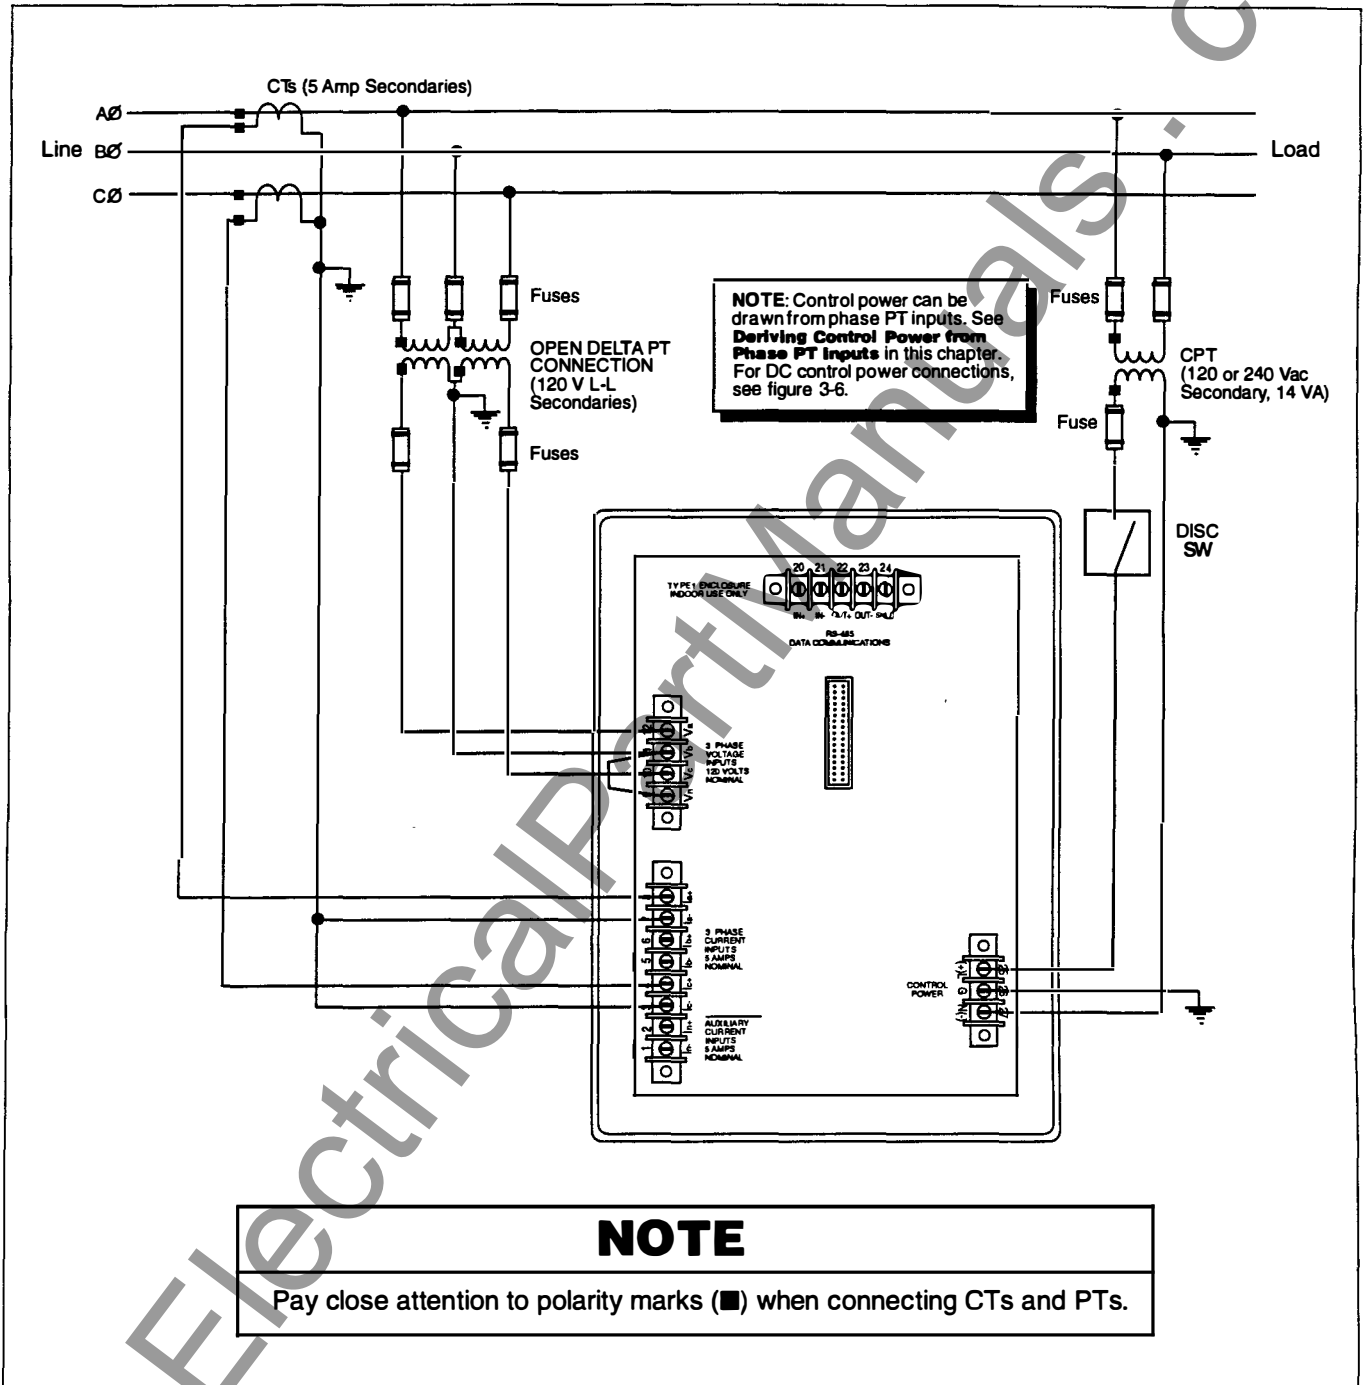
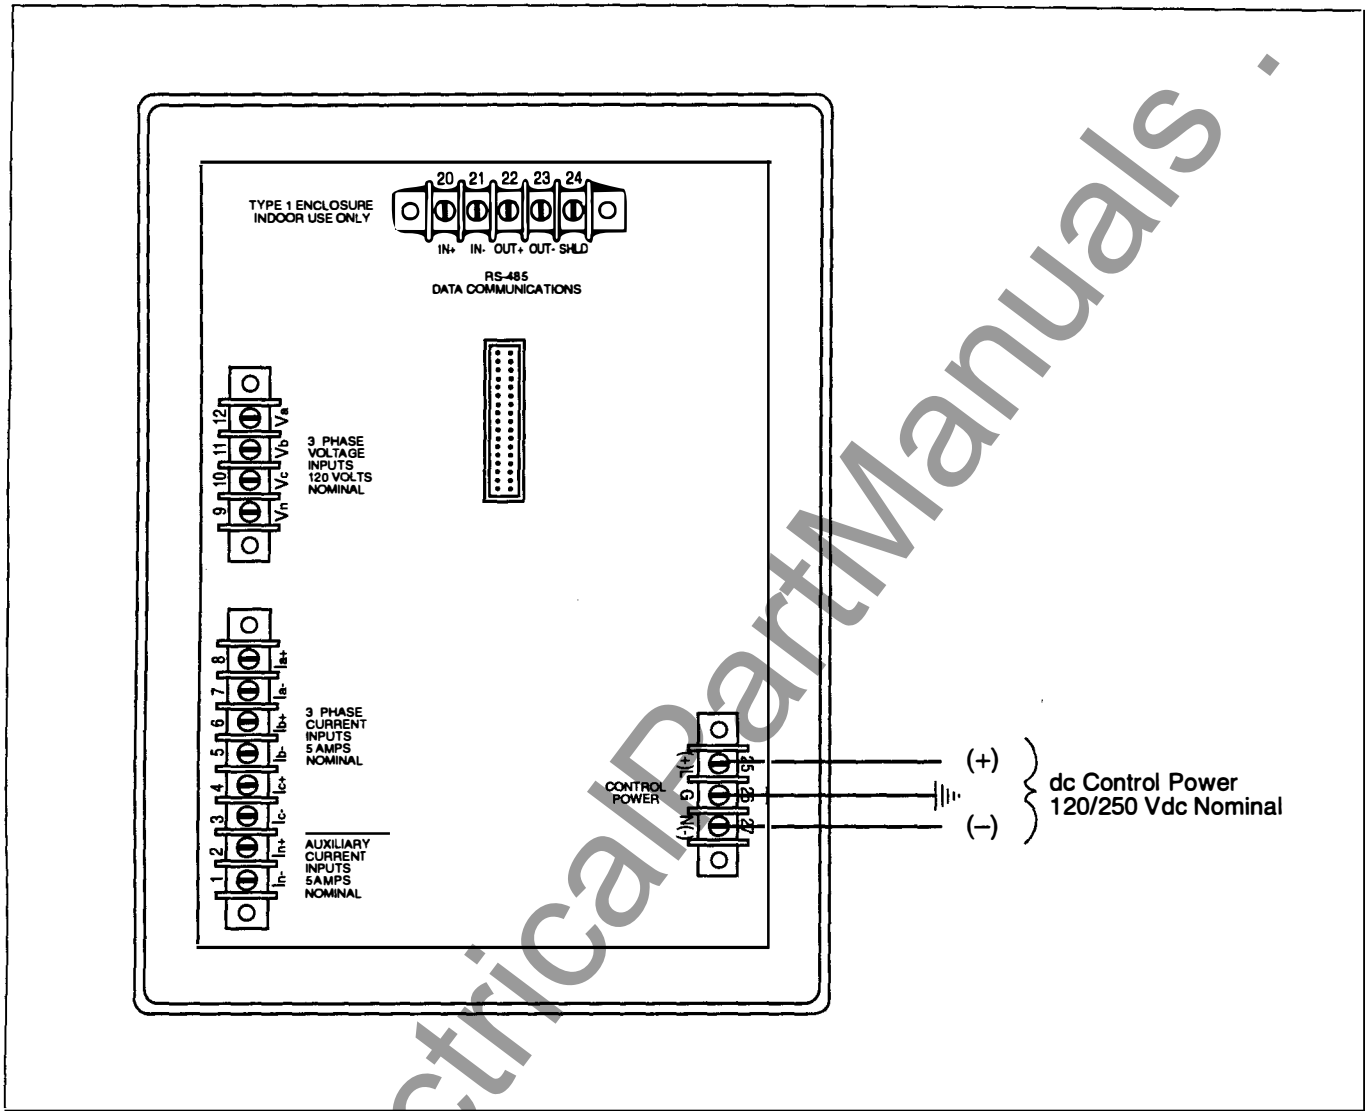

Figure 3-3: 3-phase 3-wire delta connection
Figure 3-6: DC control power connections
The Circuit Monitor supports a variety of 3-phase power system wiring connections, including 3-wire delta, and 4-wire wye. Table 3-2 lists the supported system connections. Figures 3-3 through 3-5 show CT, PT, and control power wiring. Figure 3-6 on page 16 shows dc control power.
2. Connect the spade connectors to the Circuit Monitor terminals as shown in the appropriate wiring diagram. (Figures 3-3 through 3-5 show wiring connections.) Do not overtighten screws, but ensure that they are snug.